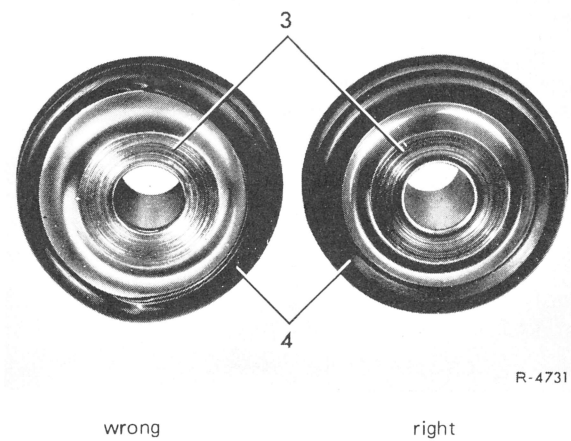

Fig. 4
6 Watch out for correct seat of sealing lip (4) after inserting inner bushing (3) (Fig. 4).